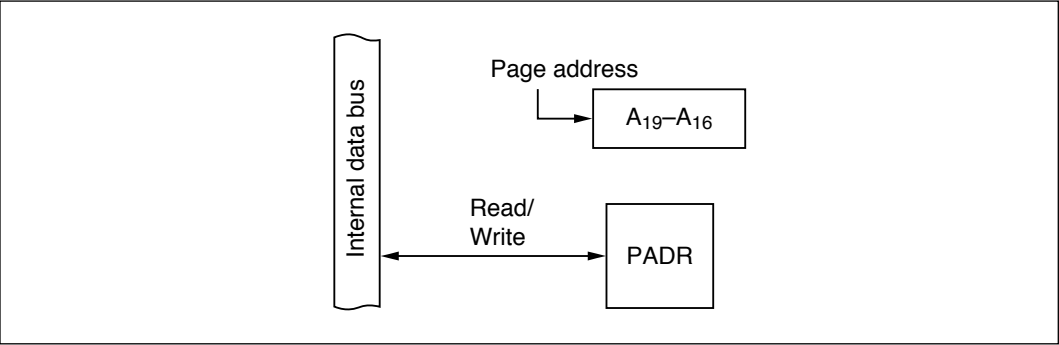

Figure 9-67 Page Address Bus (Modes 3 to 5)
(7) Page Address Bus (PA₃ to PA₀: Modes 3 to 5): Figure 9-67 shows a block diagram illustrating the page-address-bus function. Table 9-50 indicates register read/write data. When PA₃ to PA₀ are used for A₁₉ to A₁₆ output, values written in the port A data register (PADR) have no effect. When read, PADR returns the value written in PADR.